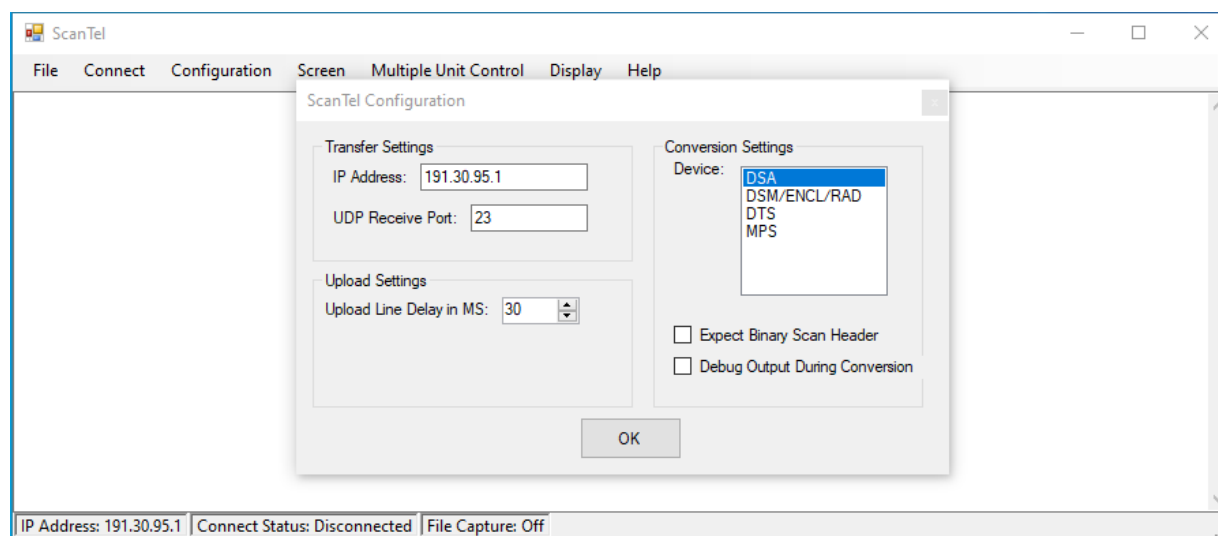

FIGURE 4.1 - SCANTEL CONFIGURATION WINDOW
1. Enter the IP address of the Scanivalve device you intend to connect to. Using figure 4.1 as an example, we are connecting to a Scanivalve device that has a known IP address of 191.30.95.1.
3. Select the Device Type in the Conversion Settings area. Using figure 4.1 as an example, the device we intend to connect to is a DSA. This device type is selected.